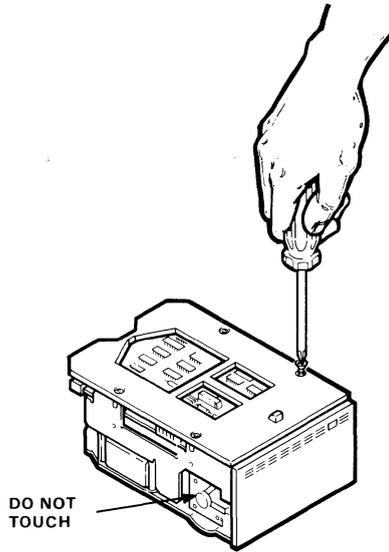

Figure 6-6 RD51 Disk Drive Skid Plate Removal
1. Remove the four Phillips screws retaining the skid plate. Set the skid plate aside (Figure 6-6)